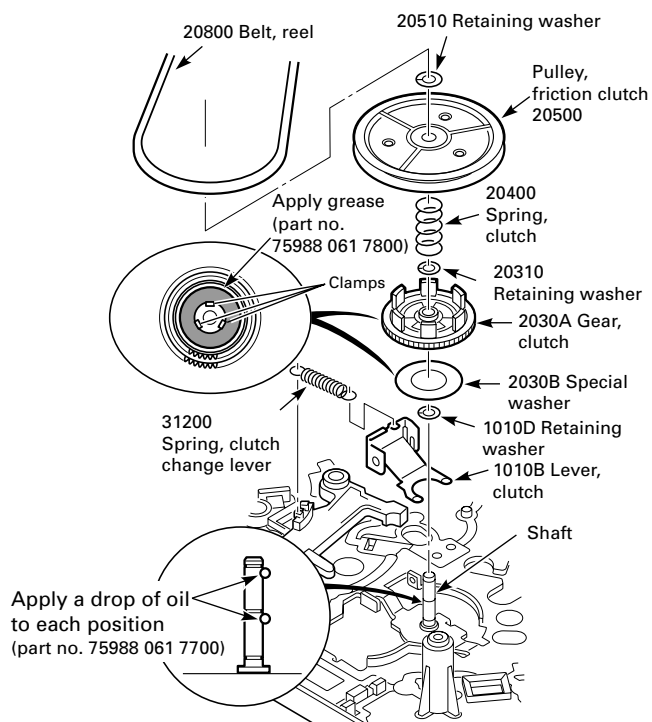

Fig. 8.21
- Detach the reel belt (Pos. 20800), remove the retaining washer (Pos. 20510) and remove the pulley together with the friction clutch (Pos. 20500, Fig. 8.21).
- Remove the clutch spring (Pos. 20400), remove the retaining washer (Pos. 20310) and the clutch gear (Pos. 2030A, Fig. 8.21).
- Follow the lubrication instructions given in Fig. 8.21!
- Remove the reel belt (Pos. 20800, Fig. 8.21).